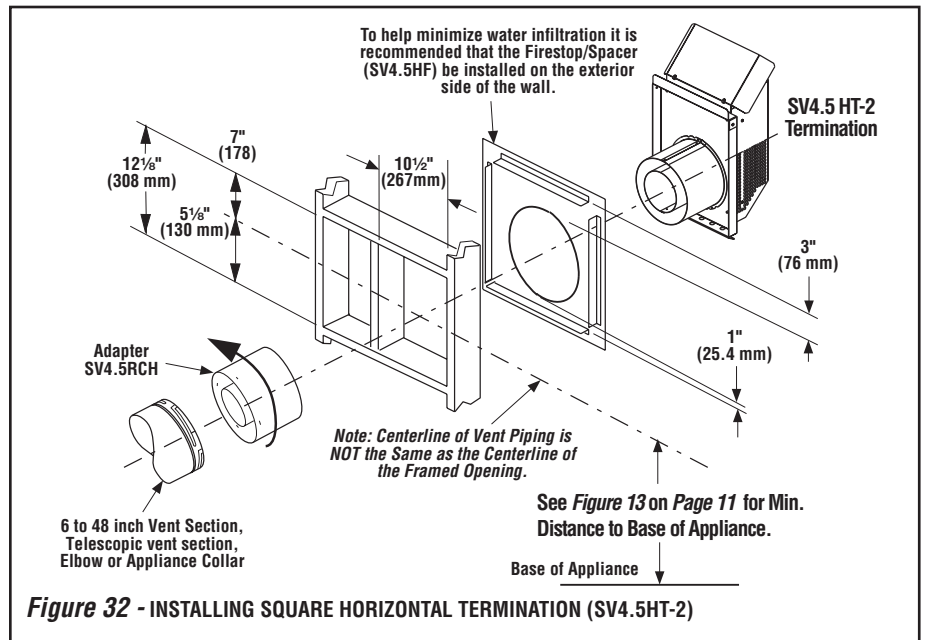

Figure 32 - INSTALLING SQUARE HORIZONTAL TERMINATION (SV4.5HT-2)
J. Assemble vent run to exterior wall - If not previously measured, locate the center of the vent at the exterior wall. Prepare an opening as described in **Step B**. Assemble the vent system to point where the terminus of the last section is located relative to the exterior surface to which the termination is to be attached (see **Figures 32 & 33 and Table 12 on Page 21**).
K. Attach termination adapter - Attach the adapter (adapter - SV4.5RCH - provided with the termination) to the vent section or telescoping vent section, elbow or appliance collar as shown in **Figures 32 & 33** in the same manner as any SV4.5 vent component (refer to **Step E**).
L. Install Firestop/Spacer at exterior wall - When using the **square termination**, install SV4.5HF (Secure Vent), SF4.5HF (Secure Flex) Firestop/Spacer over the opening at the exterior side of the framing, long side up, with the 3 inch spacer clearance at the top as shown in **Figure 32**, and nail into place.